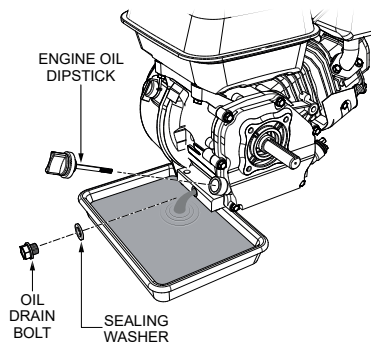

Figure 34. Draining Engine Oil
1. Unscrew the oil filler dipstick (Figure 34) from its holder.
2. Remove the oil drain bolt and sealing washer and allow the oil to drain into a suitable container (Figure 34).